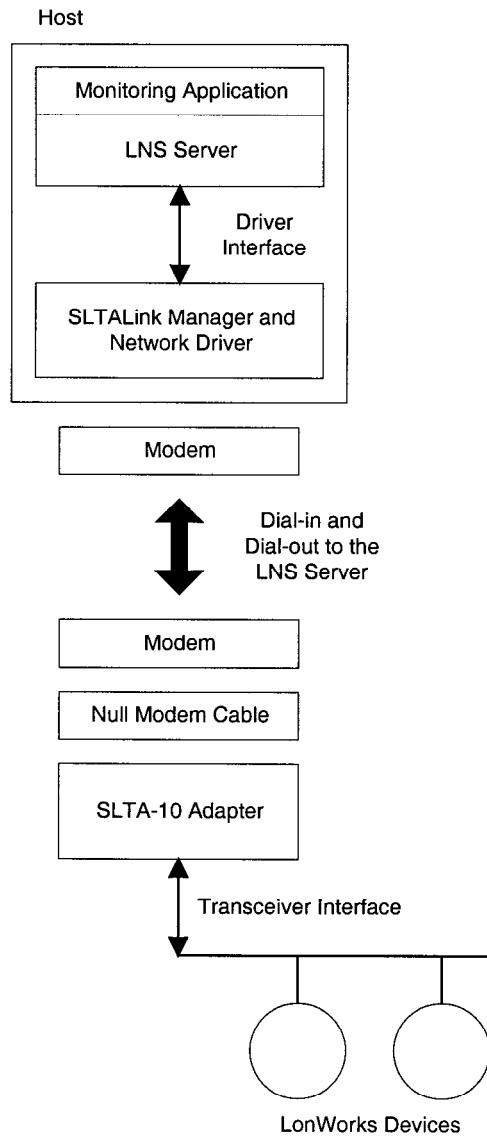

Figure 7.12 Dedicated SLTA-10 Adapter hosting the NSS
- If an LNS-based application is connected to the network through modems, dedicate one SLTA-10 Adapter in the network to handle dial-out and dial-in with this PC that has the LNS server. Make sure that the SLTA-10 adapter's EEPROM is configured correctly. See figure 7.12.